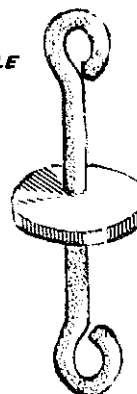

FIGURE 6
3. a retaining plate (see Figure 6).